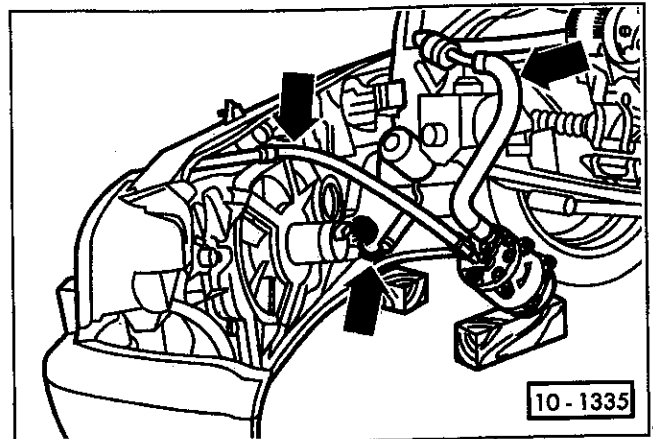

Fig. 1. A/C compressor shown removed from engine and supported. Do not stress or kink refrigerant lines (arrows).
- On cars with air conditioning, remove the A/C compressor from the engine without disconnecting any refrigerant lines. Support the compressor so that no lines are stressed. See Fig. 1.